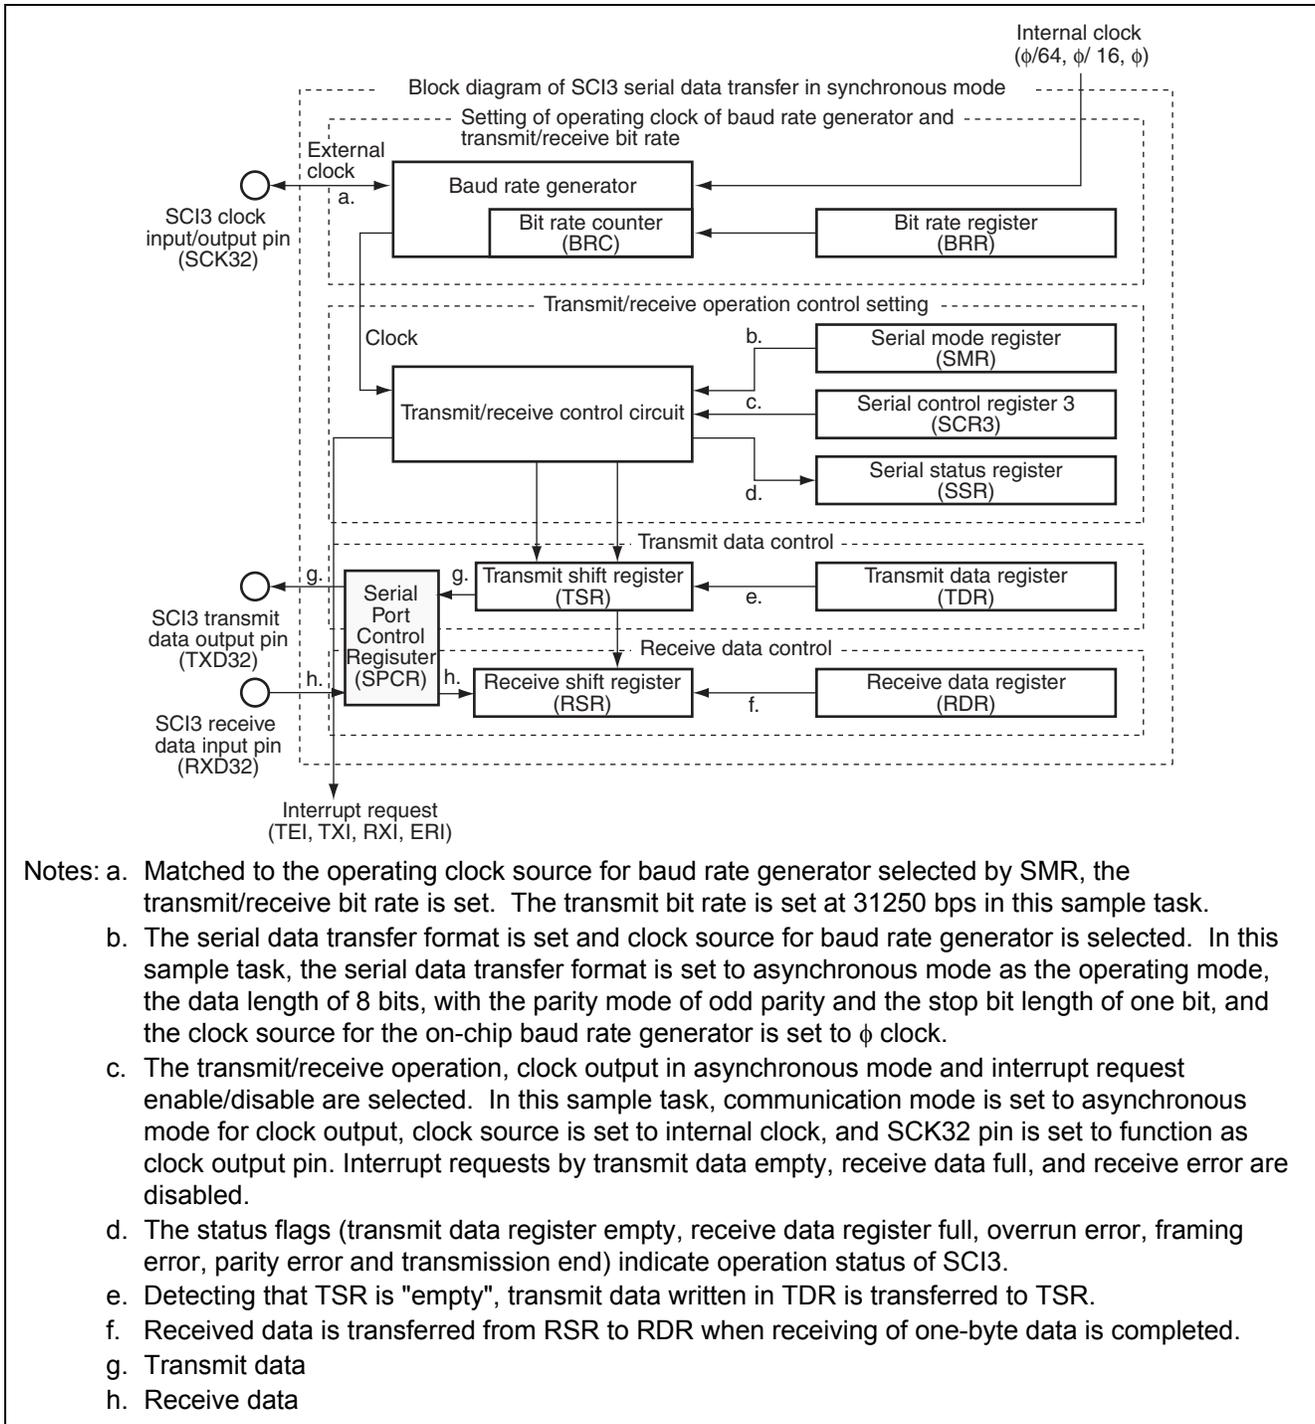

Figure 2.1 Block Diagram of Simultaneous Serial Data Transmission/Reception in Asynchronous Mode
- In this sample task, a Serial Communication Interface (SCI) is used for simultaneous serial data transmission/reception in asynchronous mode. Figure 2.1 shows a block diagram of simultaneous serial data transmission/reception in asynchronous mode which is described below.